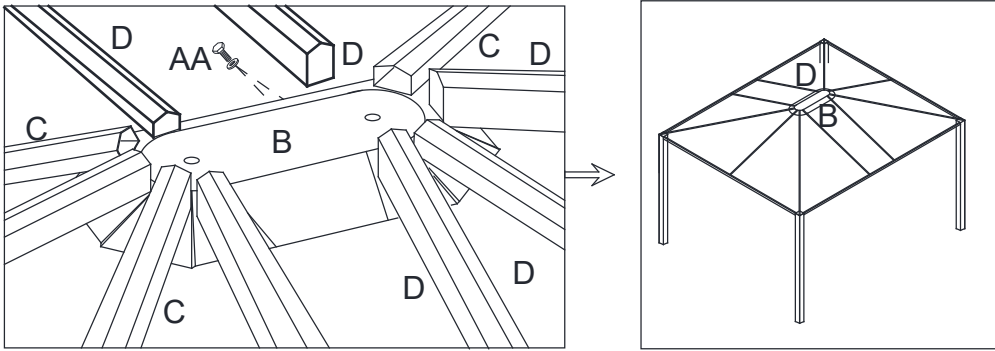

Fig.13
2-b. Attach Short Top Bar (D) to Lower Central Connector (B) with Bolt/Flat Washer M6*15(AA), attach Short Top Bar (D) to Connector (H) with Bolt/Flat Washer M6*15(AA), using the same method to attach others. See Fig.13